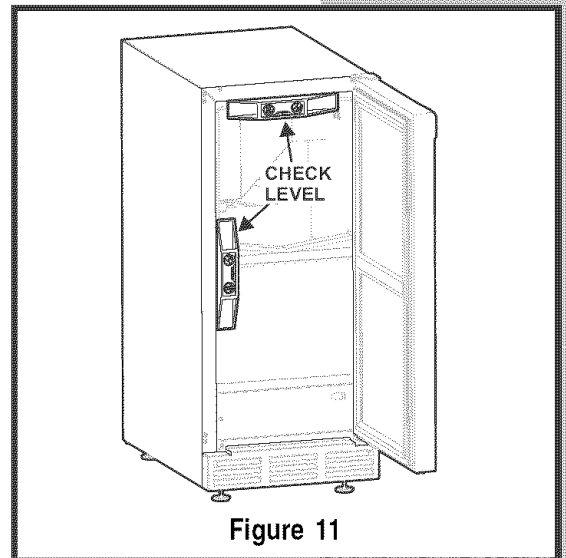

Figure 11
- 1 Use a level to check the levelness of the ice maker from front to back and from side to side (see **Figure 11**).